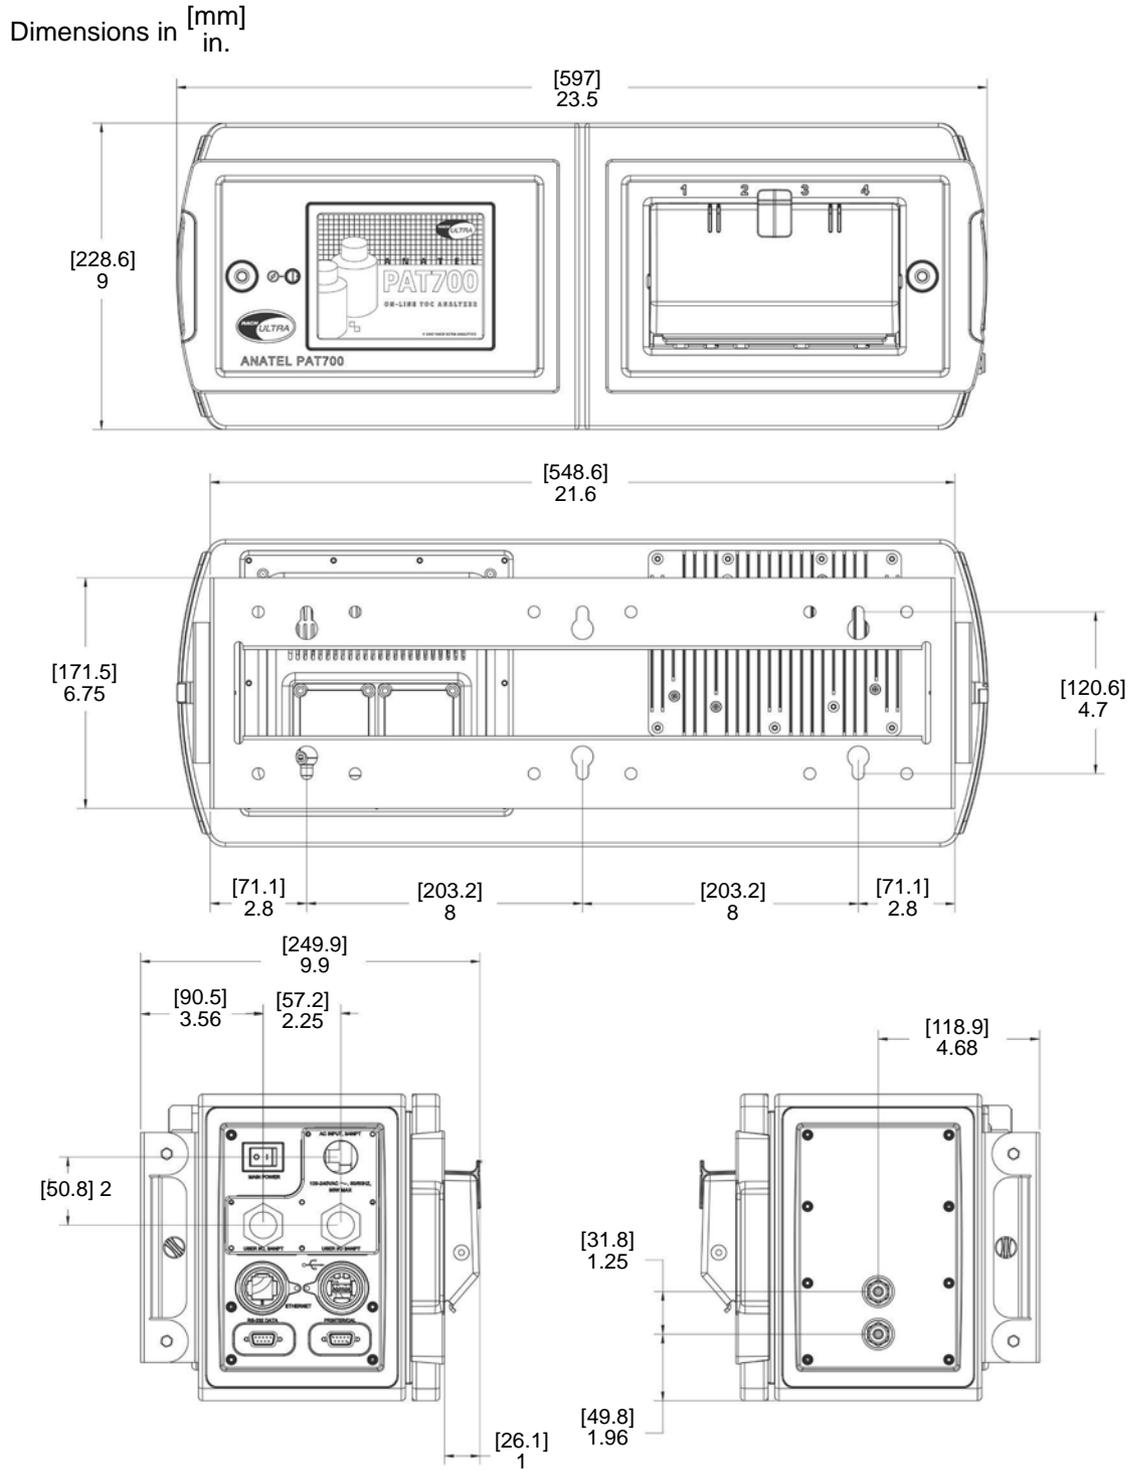
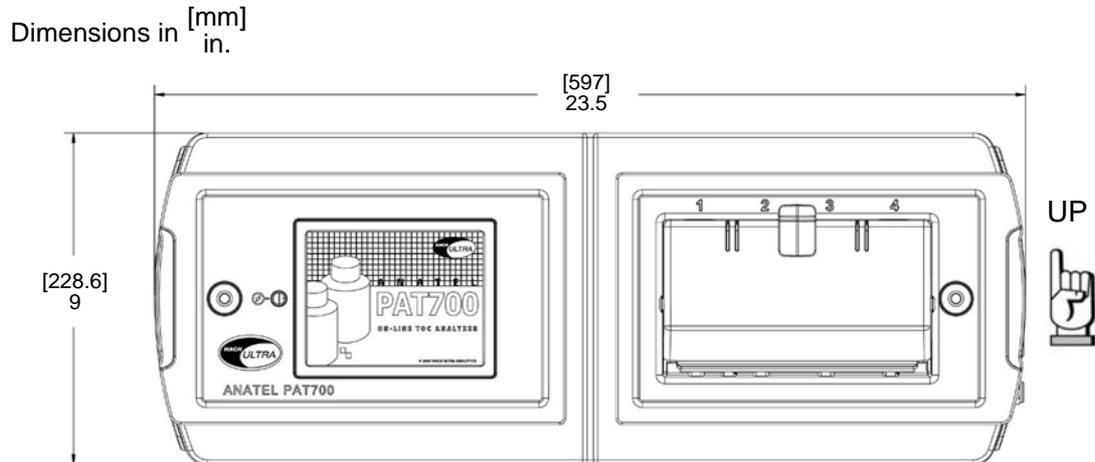
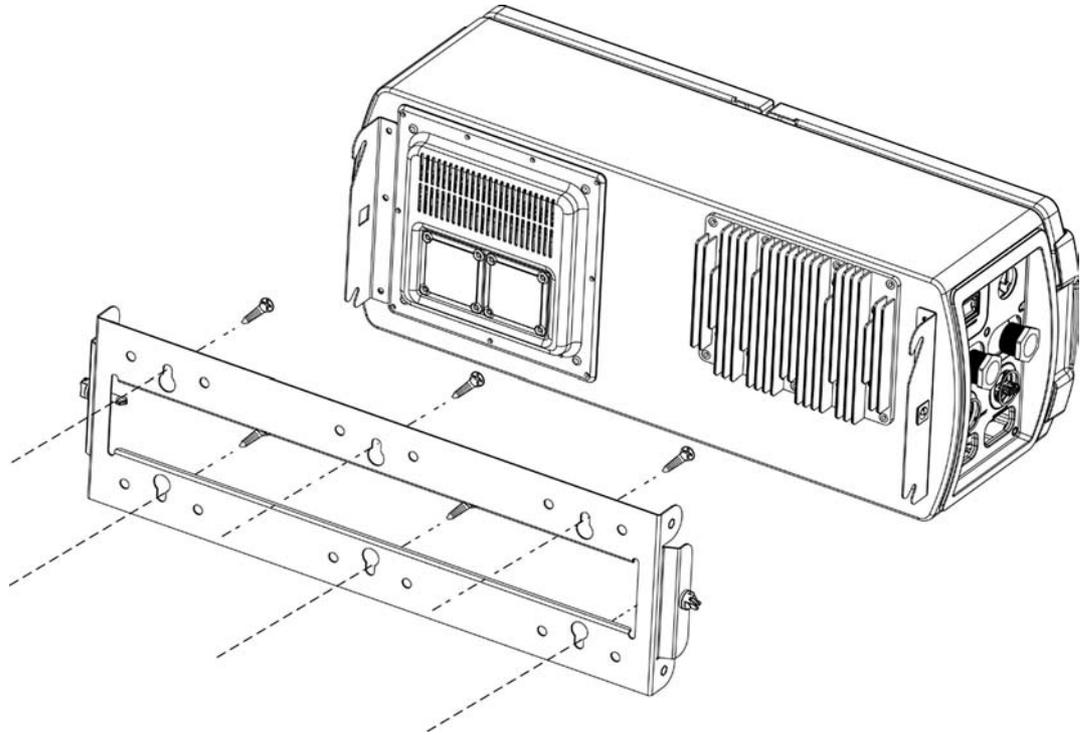
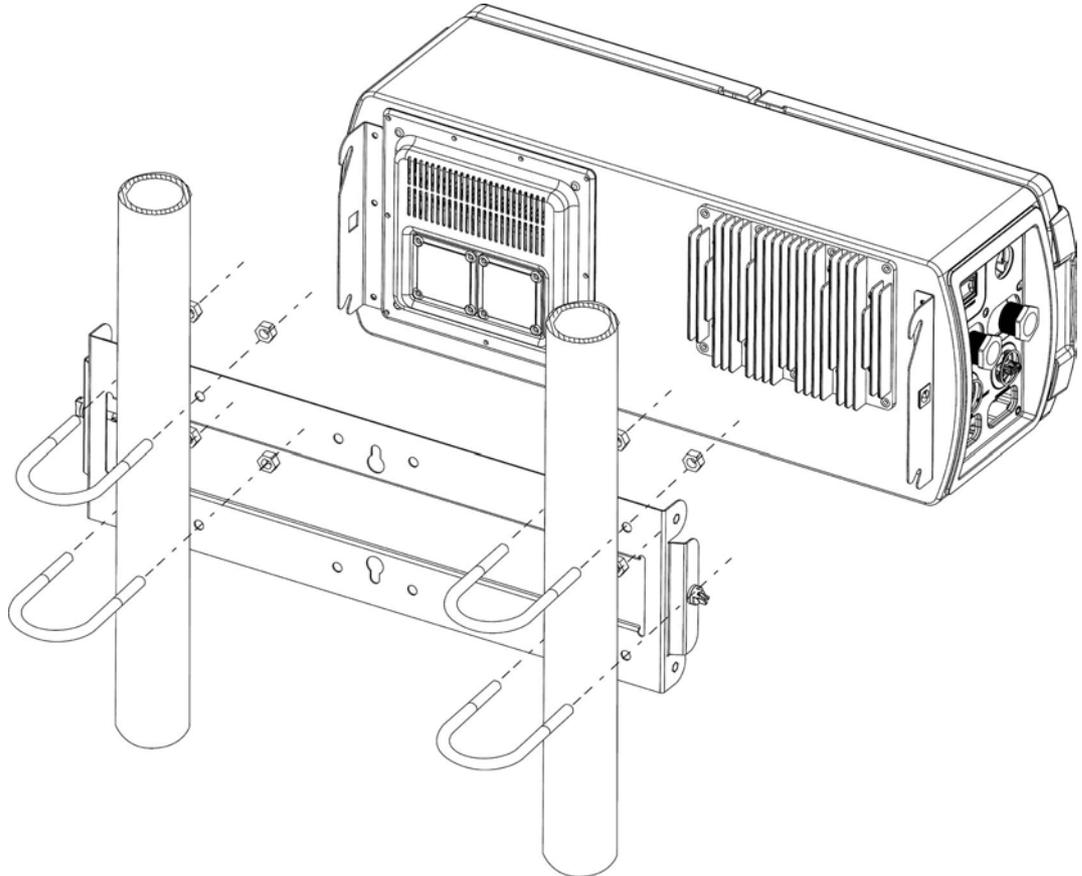

Figure 2-1 PAT700 mounting dimensions
Figure 2-2 PAT700 analyzer orientation
Figure 2-3 PAT700 wall mount
Figure 2-4 PAT700 instrument-pole mount
See Figure 2-1, page 11 for mounting dimensions. The analyzer weighs 30 lb (13.6 kg).
To ensure proper operation of the measurement cell, mount the analyzer in an upright position. See Figure 2-2.
- Secure the analyzer using the factory-supplied mounting bracket (see Figure 2-3, page 13). Use the mounting holes in the bracket to mount it to a flat, stable surface.
Follow these guidelines and refer to Figure 2-1, Figure 2-2, and Figure 2-3 to mount the transmitter to a wall or other flat, rigid surface:
Follow these guidelines and refer to Figure 2-1 and Figure 2-4 to mount the analyzer to instrument poles: